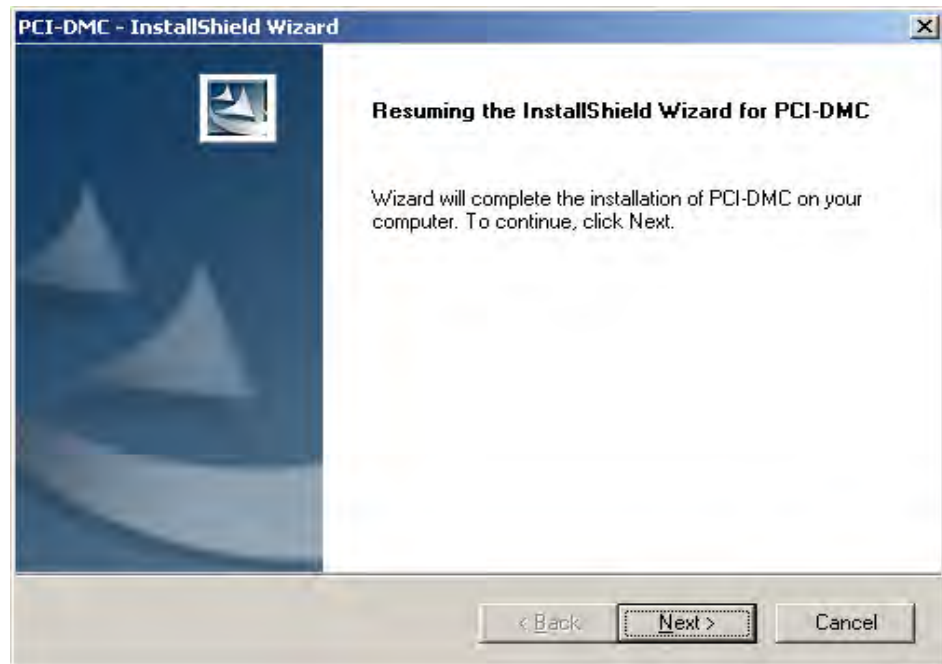

Figure 2.15
Step 3: As shown in Figure 2.15, once the system resources check has been completed, the software installation process will begin. Please click on "Next" to continue.